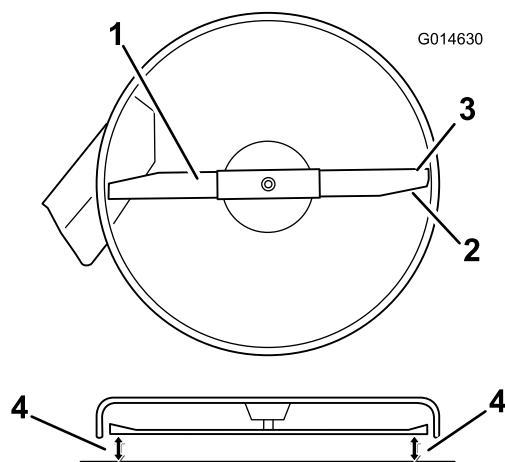

Figure 48
4. Carefully rotate the blade(s) so that they are all side to side (Figure 48).
5. Measure between the outside cutting edges and the flat surface (Figure 48). If both measurements are not within 5 mm (3/16 inch), an adjustment is required; continue with this procedure.